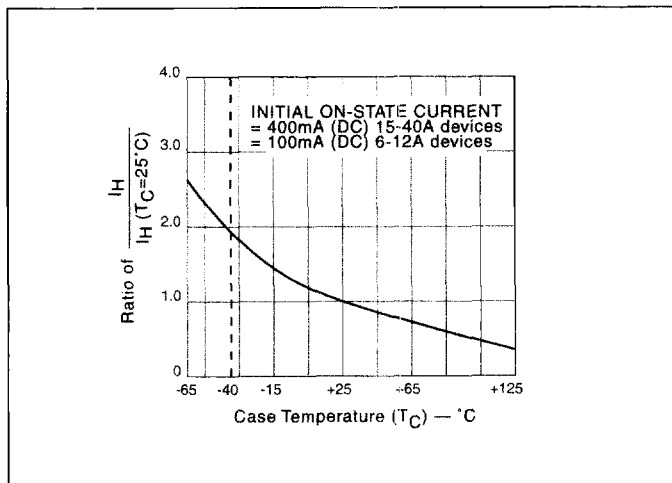

Figure 4.9 Normalized DC Holding Current vs Case Temperature
- (8) See Figure 4.9 for  $I_H$  vs  $T_C$ .